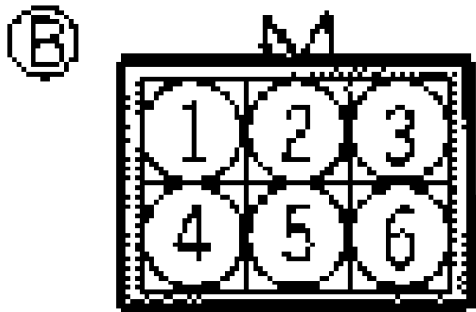

Fig. 12: ISC Motor Connector Term. ID (6 Pin)
1) Remove throttle body from intake plenum. Remove ISC motor from throttle body. Apply 6-volt source parallel to terminals No. 2 and 5 of ISC motor connector. See Fig. 12.
Measure resistance between terminals No. 1 and 2, 2 and 3, 4 and 5, and 5 and 6 of ISC motor connector. See Fig. 12. In each case, if resistance is not 28-33 ohms at 68°F (20°C), replace ISC motor